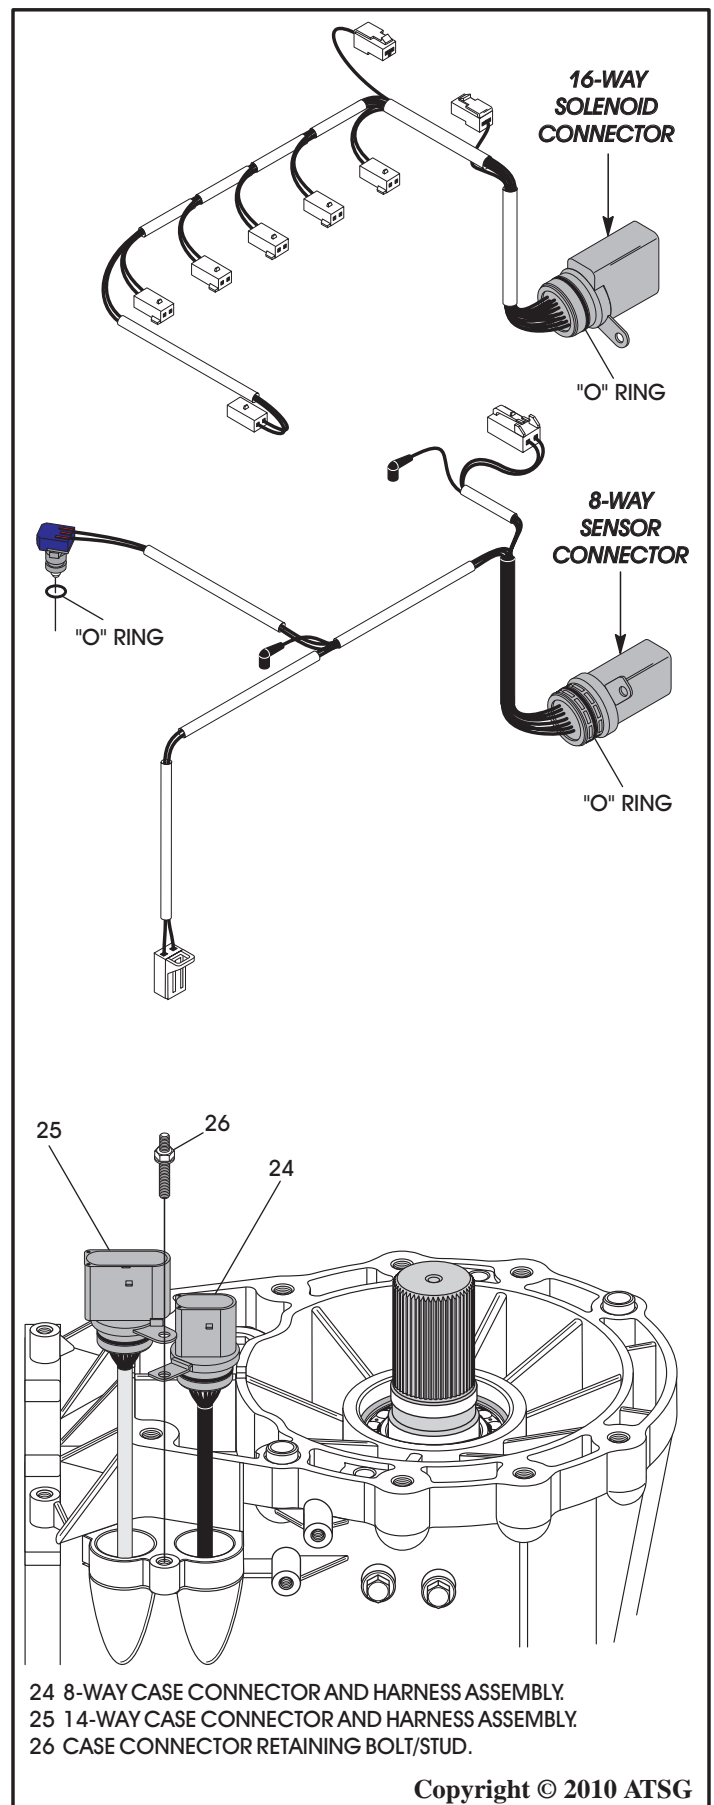

Figure 233
58. Install new "O" ring seals on both pass-thru case connector and wire harness assemblies and install them into their proper case bores, as shown in Figure 233.
59. Install the retaining "stud" bolt, as shown in Figure 233, torque to 11 N·m (97 in.lb.).
60. Install new "O" ring seal onto temp sensor, as shown in Figure 233.